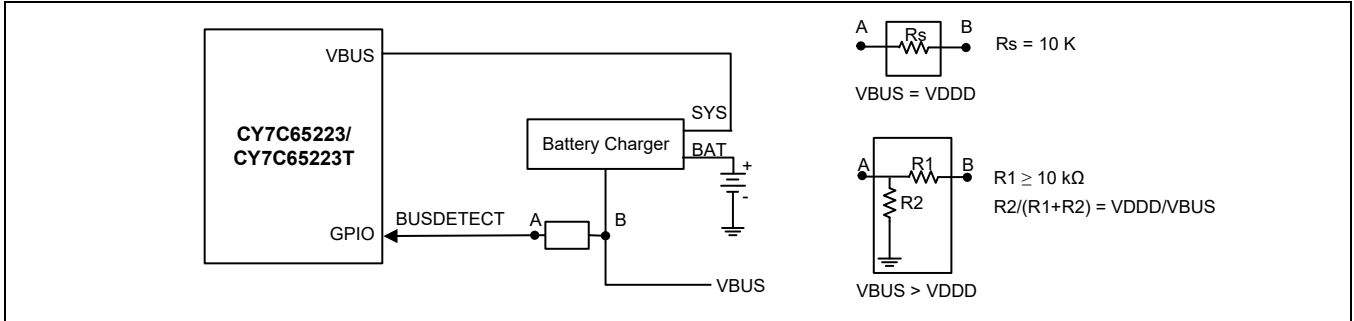
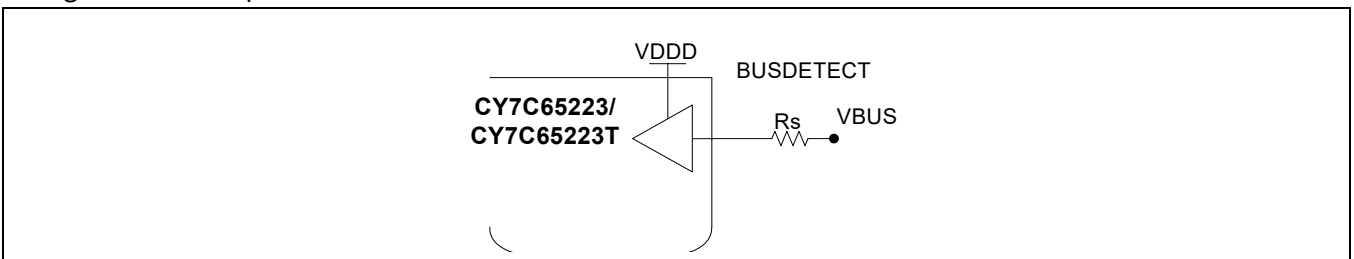
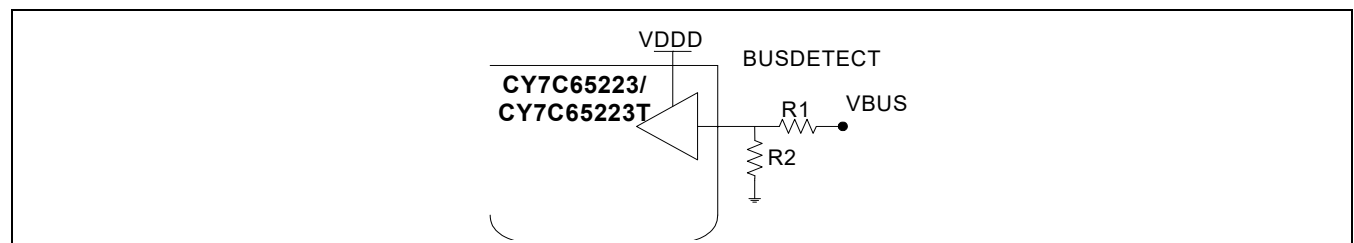

Figure 10 9-V tolerant
Figure 11 GPIO VBUS detection, VBUS = VDDD
Figure 12 GPIO VBUS detection, VBUS > VDDD
BUSDETECT	VBUS detection. Connect the VBUS to this pin through a resistor network for VBUS detection when using the BCD feature (refer to Figure 10 , Figure 11 , and Figure 12).
8. Refer Figure 10, Figure 11, Figure 12 and the corresponding descriptions for handling VBUS Over Voltage Protection (OVP).
In a battery charger system, a 9-V spike on the VBUS is possible. The CY7C65223/CY7C65223T VBUS pin is intolerant to voltage above 6 V. In the absence of over-voltage protection (OVP) on the VBUS line, the VBUS should be connected to BUSDETECT (GPIO configured) using the resistive network and the output of the battery charger to the VBUS pin of CY7C65223/CY7C65223T, as shown in **Figure 10**.
When the VBUS and VDDD are at the same voltage potential, the VBUS can be connected to the GPIO using a series resistor (R_s) (see **Figure 11**). If there is a charger failure and the VBUS becomes 9 V, then the 10-k Ω resistor plays two roles. It reduces the amount of current flowing into the forward-biased diodes in the GPIO, and it reduces the voltage seen on the pad.
When the VBUS > VDDD, a resistor voltage divider is required to reduce the voltage from the VBUS down to VDDD for the GPIO sensing the VBUS voltage (see **Figure 12**). The resistors should be sized as follows: